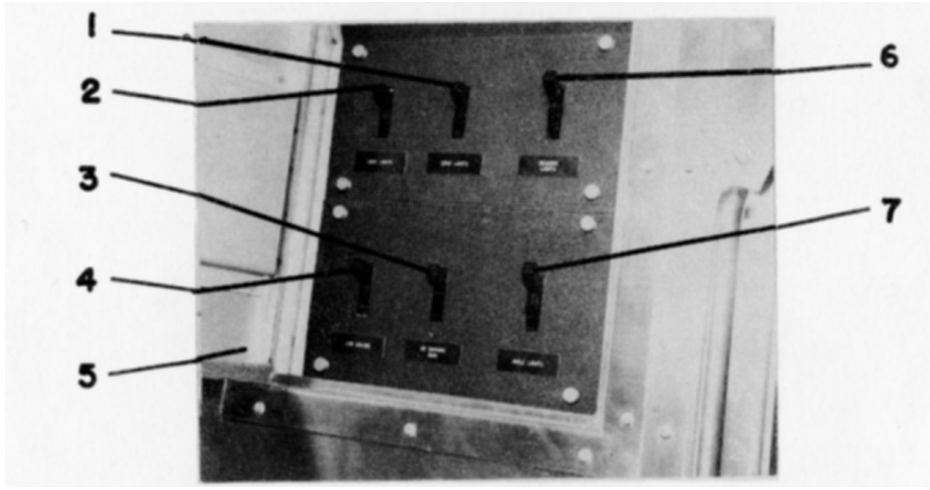

FIG. 44
These signs are located adjacent to Entrance and Exit Signs in the passenger section of the car. They are illuminated by No Smoking Sign Switch (3) Fig. 44, OFF-ON, located in 'A' end vestibule switch panel.
- b. Cove Lights (upper row, right side; upper row left .side) are controlled by Cove Light Switch (1-2) Fig. 44, OFF-ON, located at 'A' end of vestibule in car lighting switch panel.
- c. Aisle Lights, located at seat base, are controlled by Aisle Light Switch (7) Fig. 44, ON-OFF, in 'A' end vestibule.
- d. Reading Lights, located at each passenger seat, are controlled by Reading Light Switch (6) Fig. 44. Each light is individually, push-button operated by the passengers.
- e. Low Ceiling Lights are controlled by Low Ceiling_Light switch (4) Fig. 44, OFF-ON.